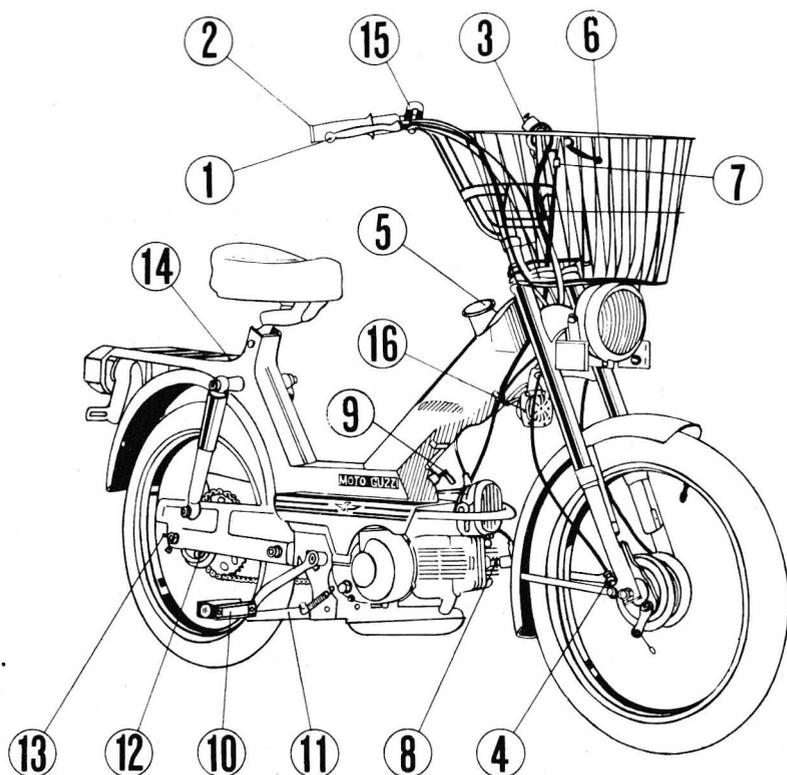

Fig. 2
**LAYOUT OF CONTROLS (fig. 2)**